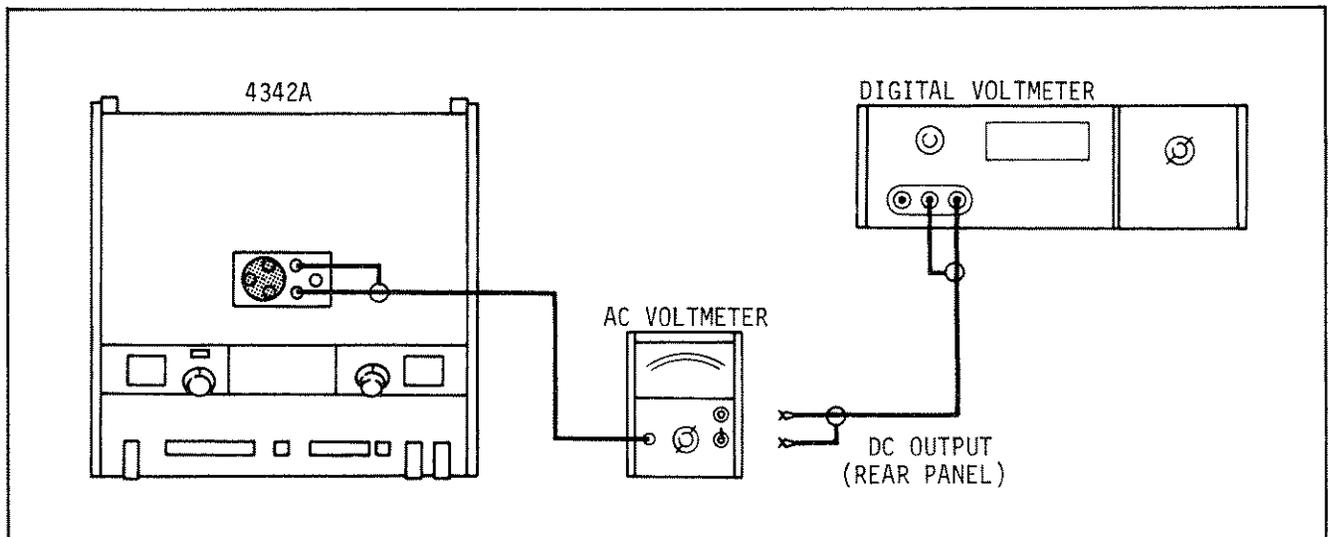

Figure 5-2. ΔQ Range Check.
- a. Connect the AC Voltmeter to 4342A HI and GND terminals and place the Reference Inductor in the HI and LO terminals as shown in Figure 5-2. Monitor DC voltage at AC Voltmeter dc output terminals with Digital Voltmeter.